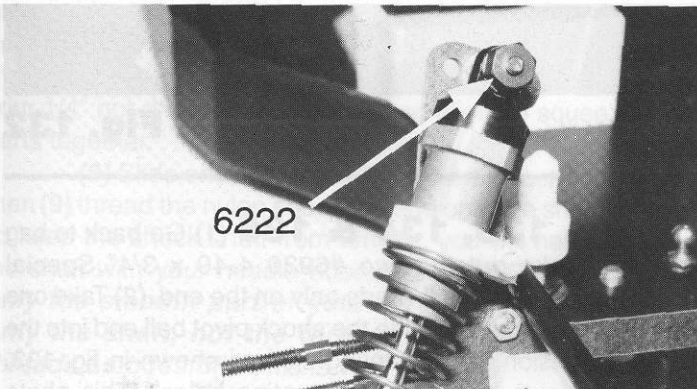

**Fig. 133**
□ **Figs. 133, 134 & 135** (1) Go back to bag #6-1 and take out the two #6930 4-40 x 3/4" Special SHCScrews that have threads only on the end. (2) Take one of the front shocks and slide the shock pivot ball end into the front suspension arm mounting slot, as shown in fig. 133, into the outside hole of two mounting holes. (This photo shows installing the passenger side shock.) The flange side of the steel pivot ball should be toward the rear of the A-arm. (3) Now install one of the #6930 Special screws through the front of the A-arm, the steel pivot ball (see arrow in fig. 133) and thread it into the A-arm. Be careful not to overtighten the screw, or the shock could bind. Most drivers prefer to install their shocks with the spring clamp adjusting screws on the inside, facing forward, to make adjustment easier.